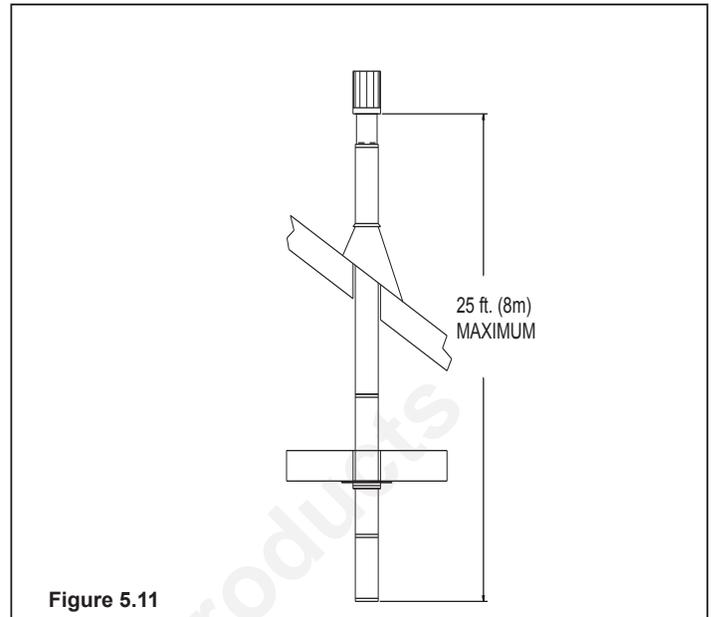

Figure 5.11
**NOTE:** Maximum vertical rise allowable is 25 ft. (8m), **Figure 5.11**.